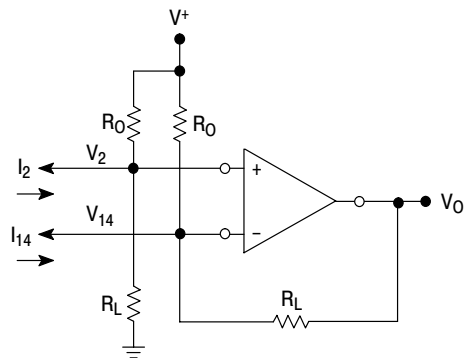

Figure 22. Level Shift Circuit
Step 5. For dc applications, such as the multiply, divide and square-root functions, it is usually desirable to convert the differential output to a single-ended output voltage referenced to ground. The circuit shown in Figure 22 performs this function. It can be shown that the output voltage of this circuit is given by: